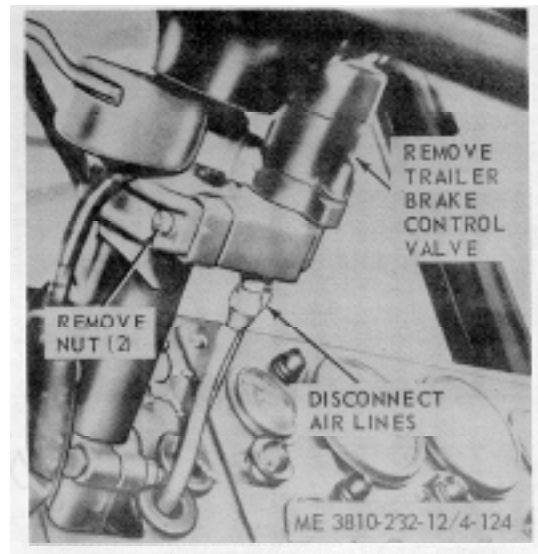

Figure 4-124. Trailer brake control valve, removal and installation
(1) Relieve system pressure.
(2) Remove trailer brake control valve as illustrated in figure 4-124.
c. *Installation.* Install valve as illustrated in figure 4-124.